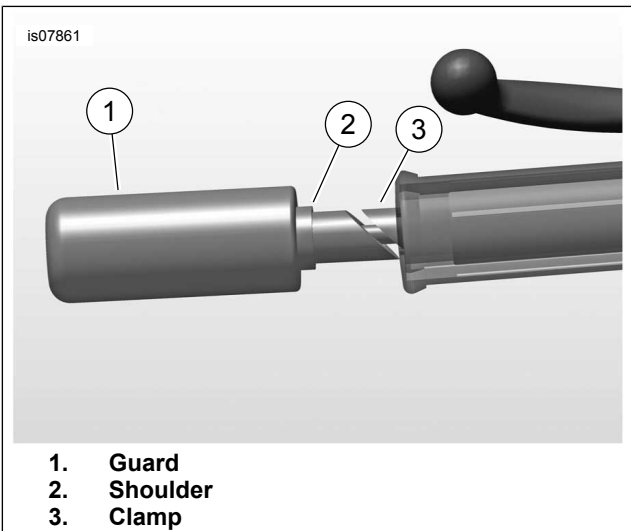

Figure 4. Install Guard
3. See Figure 4. Insert assembly into the end of the handlebar until the shoulder (2) contacts the handlebar.